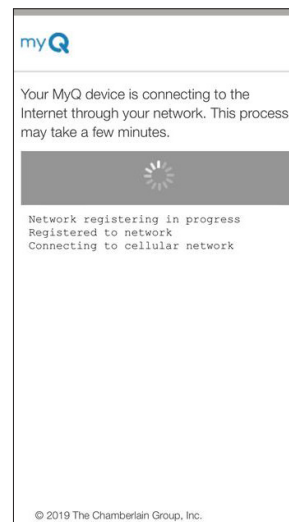

Figure 4
5. From myQ® Business™, verify that the cellular service has been enabled for the CAPAC device. (See Figure 4)